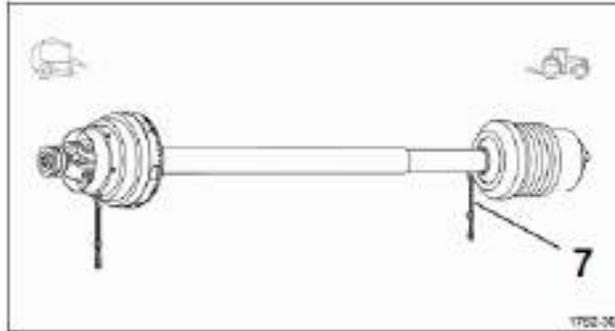

Figure 34. Anti-rotation chain
- Connect anti-rotation chain [7] (if equipped) to tractor (see Figure 34 on page 7-11).
- Disconnect anti-rotation chain [7] (if equipped) from tractor (see Figure 34 on page 7-11).